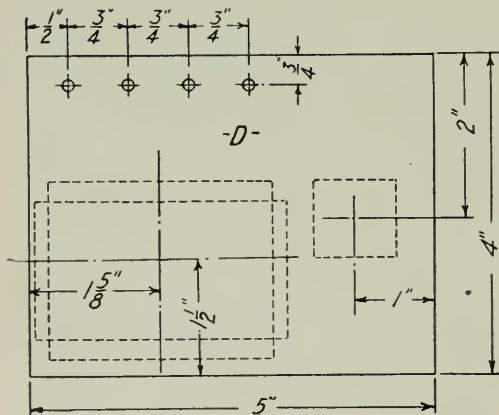

Fig. 5. Plan of arrangement of parts, with dimensions
The base (D) and the standard (E) are made of hard wood. The base should be about 1/2" thick. In Fig. 5, the plan of the arrangement of the parts is shown. The four small holes shown